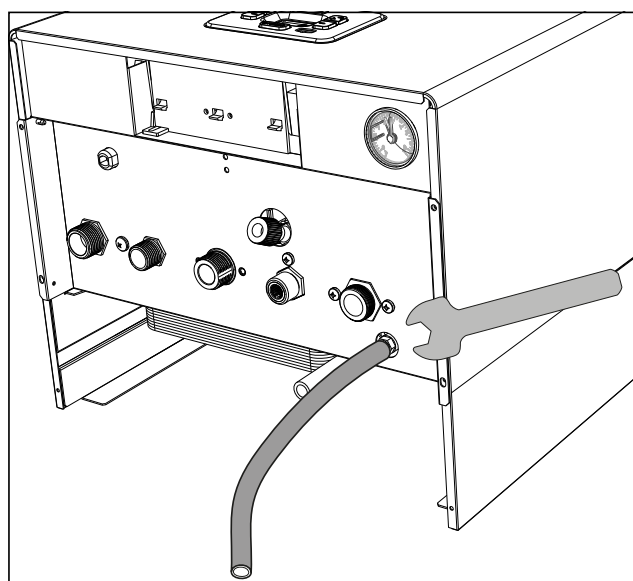

fig. 9
To drain the system, attach a rubber hose (ref. 3 - fig. 9) to the circulating pump drain valve connection.